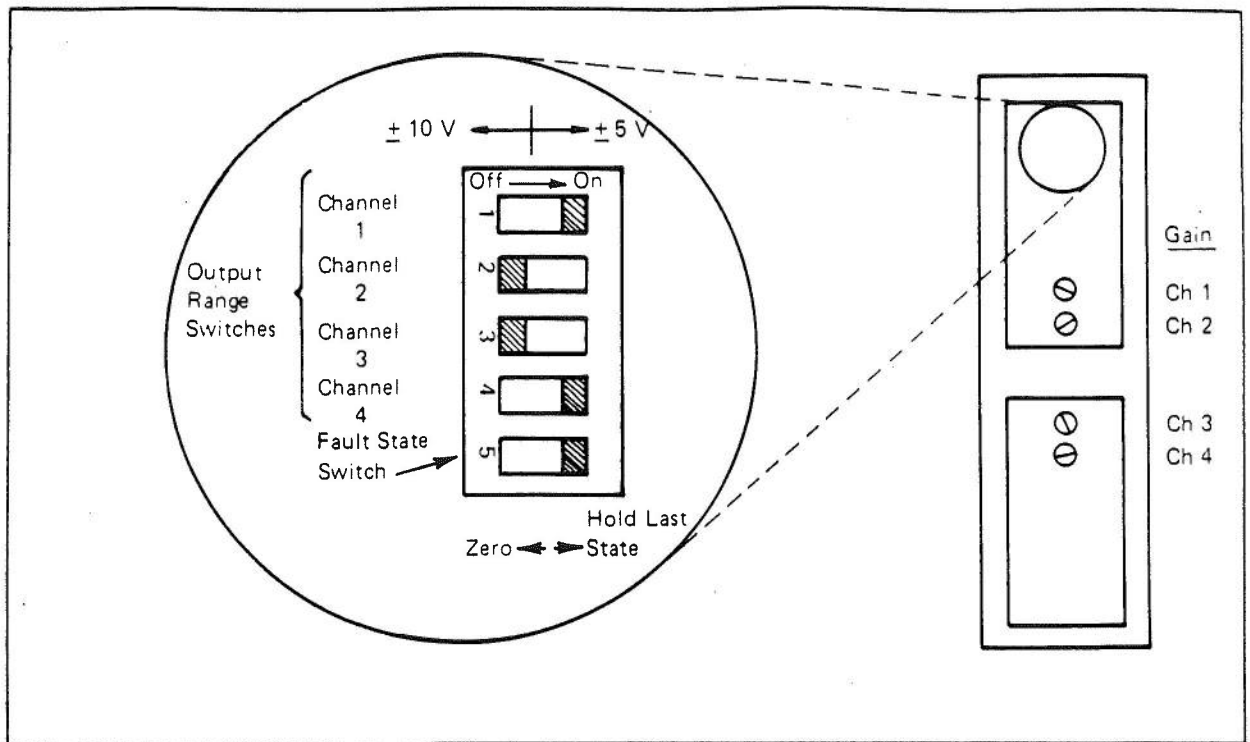

Figure 6 — Voltage Range Selector Switch and Gain Adjustments
Each channel of the Module may be set independently to output either ± 5 V or ± 10 V by setting the selector switch under the top Lens of the Module (Figure 6). For each range, output register bits 0 to 10 (lower 10 bits) determine the magnitude of the output and bit 16 determines polarity (bit 16 = 1 = negative; bit 16 = 0 = positive).
Step 3. If the output voltage is out of spec, remove the Lens covering the channel's gain potentiometer (Figure 6).
1. Each channel of the Module uses the first 10 bits and bit 16 of its assigned output register (OR) to produce the desired analog voltage output (bit 16 determines the sign). The lowest possible number contained in the 10 bits is 0; the highest is 1023. Any assigned output register whose contents are greater than 1023 (excluding the sign bit) will produce the high end of the Module's output range (either 5V or 10V).
4. The output of each channel of the Module depends on the value it receives from its assigned output register (OR). If the Processor loses its AC power, the value present in the OR is saved. However, if the external supply for the Module is wired to the same AC source as the Processor, Module output will go to zero. If the external supply is on a separate AC supply (different from the Processor supply), the Module's Fault State Switch settings (Figure 6) determine the output state: the Module will maintain its outputs at the value present when the Processor loses power if the switch is set to ON; the outputs will go to zero if the switch is OFF. The last state/zero state settings also apply in the event of a Processor fault.